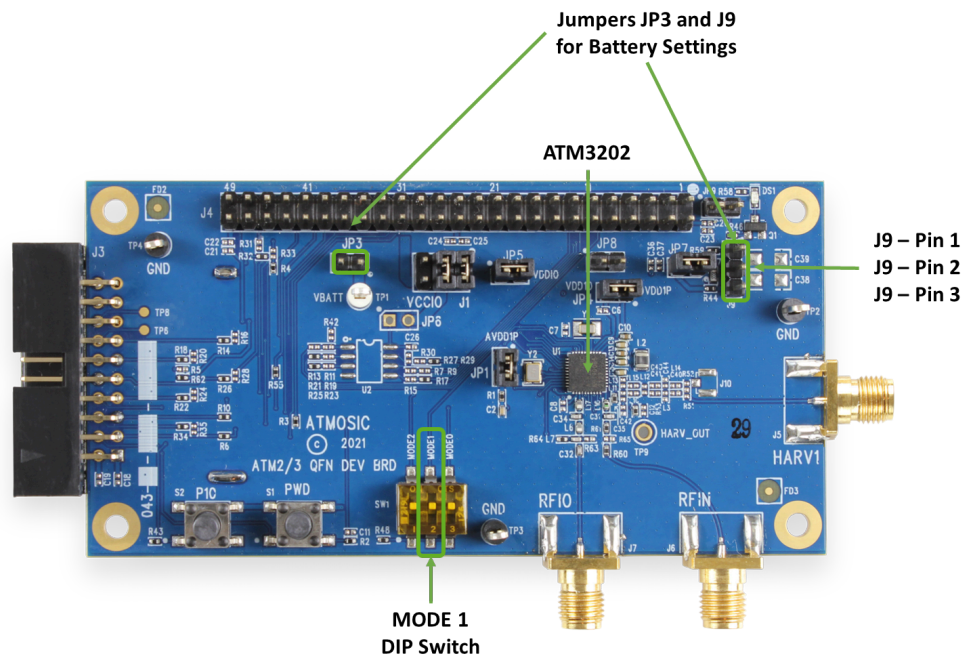
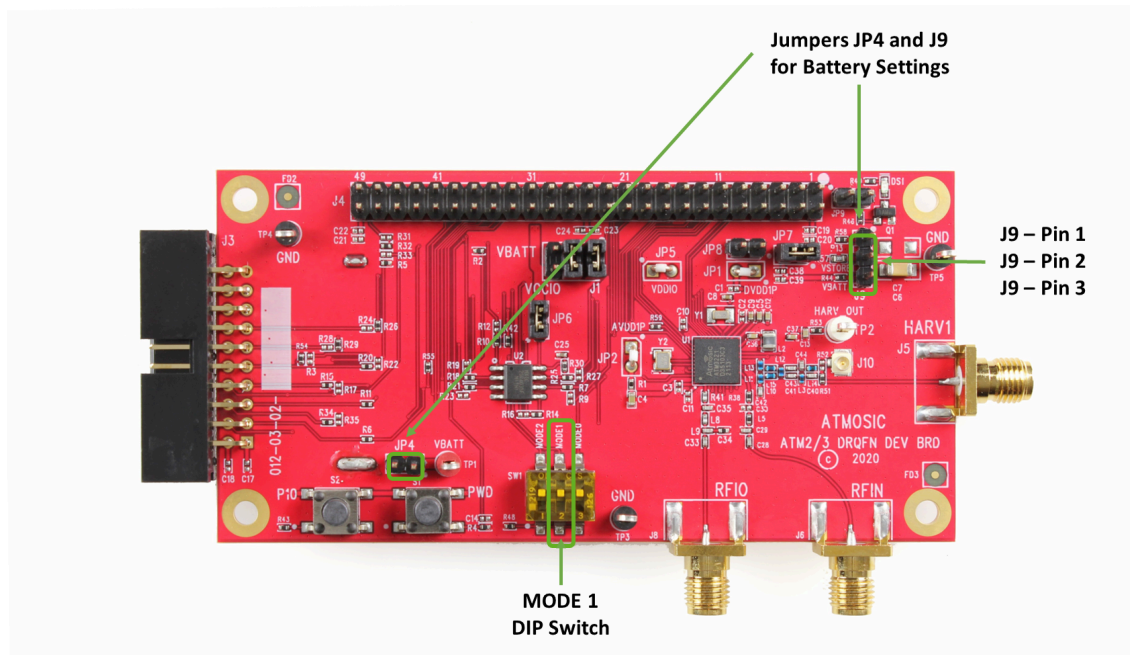

Figure 6 - ATM3202 EVB Battery Jumpers and Dip Switch Location
Figure 7 - ATM3221 EVB Battery Jumpers and Dip Switch Location
- Figure 6 - ATM3202 EVB Battery Jumper Locations
- Figure 7 - ATM3221 EVB Battery Jumper Locations
The default jumper settings are suitable for a system with no battery. To evaluate the system with a battery, users need to insert the battery to the battery holder at the back of EVB and modify the jumps shown in Table 2. Also see Figure 6 and Figure 7 for battery jumper locations of the ATM3020 EVB and ATM3321 EVB respectively.